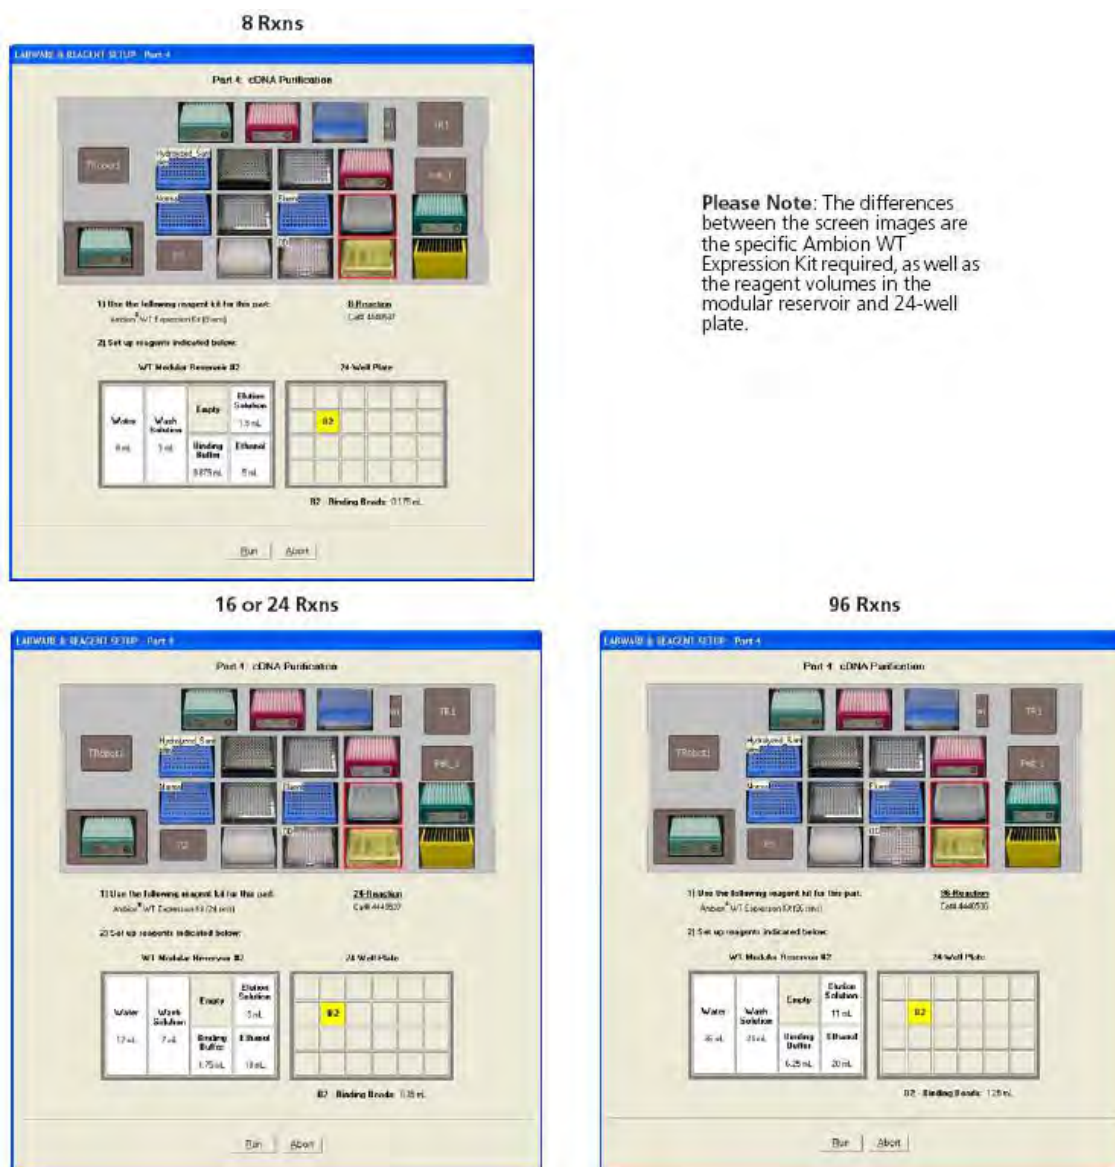

Figure 43 Part 4 labware and reagent setup.
2. The **Labware & Reagent Setup** window appears (Figure 43).
- Figure 43— Illustration of the deck layout
- When ready, click **Run** in the **Labware & Reagent Setup** window (Figure 43).